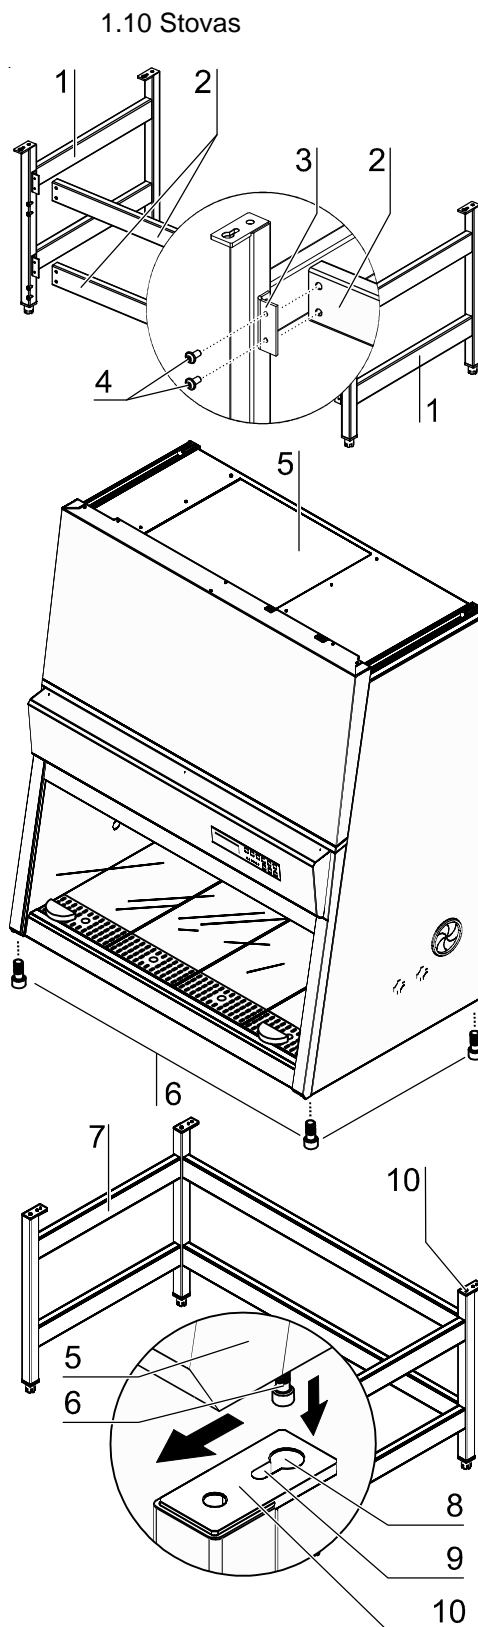

Fig. 10
1. **Fig. 10:** Slide the two crossmembers [2] onto the retaining angles [3] of the side panels [1], then secure the crossmembers to the side panels using the screws with wedge lock washers [4].